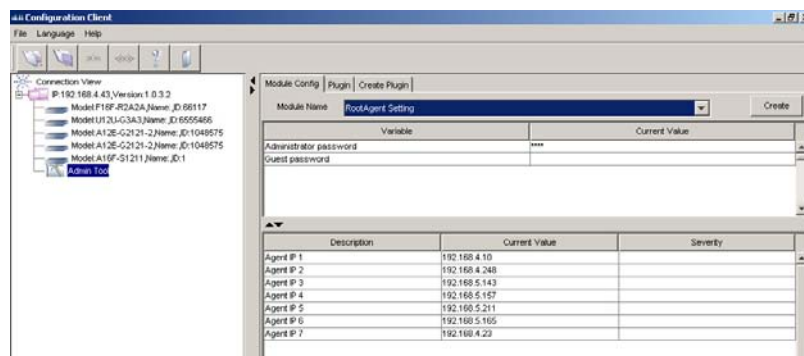

Figure 4-3: Configuration Client Window
**Step 3.** Click on *Configuration Client* to activate the Configuration Client window as shown in *Figure 4-3*. The Configuration Client program allows you to configure the following items: